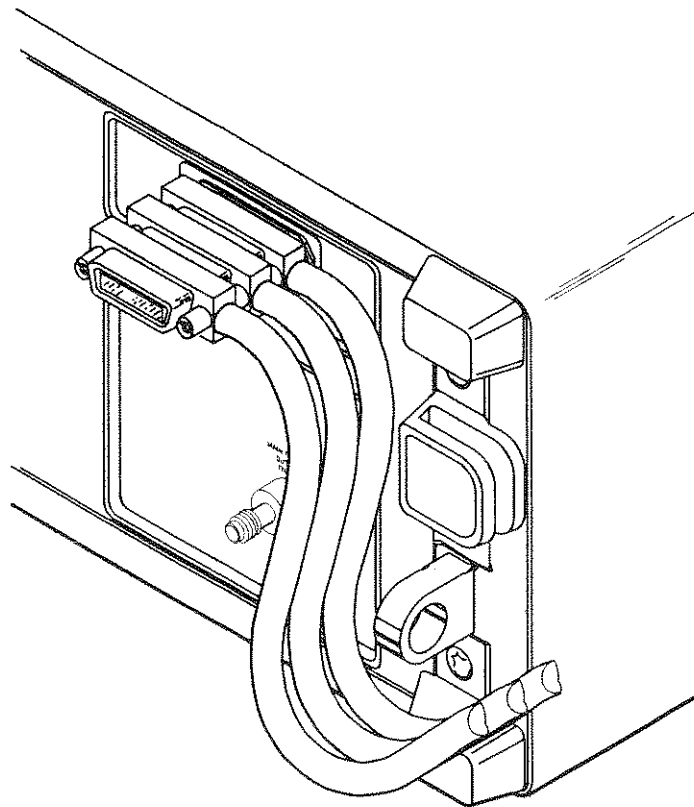

Figure 3-48: Stacking GPIB Connectors
**Connector**—A 24-pin GPIB connector is located on the oscilloscope rear panel. The connector has a D-type shell and conforms to IEEE Std 488.1-1987. You can stack GPIB connectors on top of each other (see Figure 3-48).